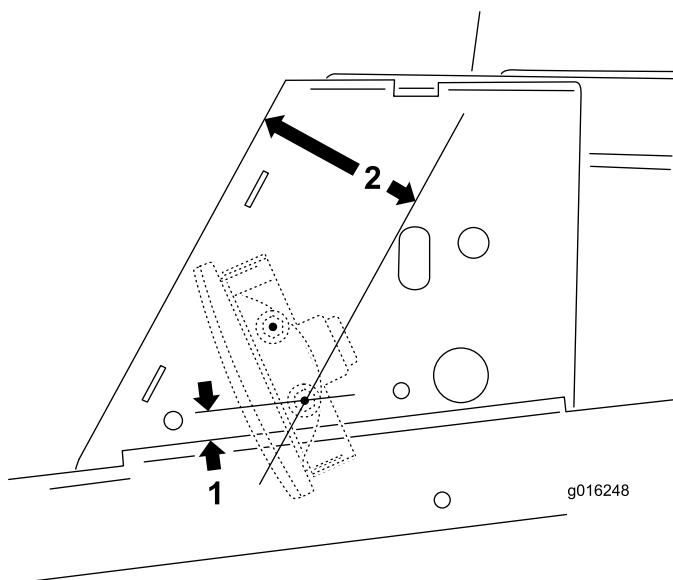

Figure 8
- Measure a 1/2 inch from the bottom edge of the control arm housing and score a line (Figure 8).
- Measure 3 inches from the forward edge of the control arm housing and score a line (Figure 8).